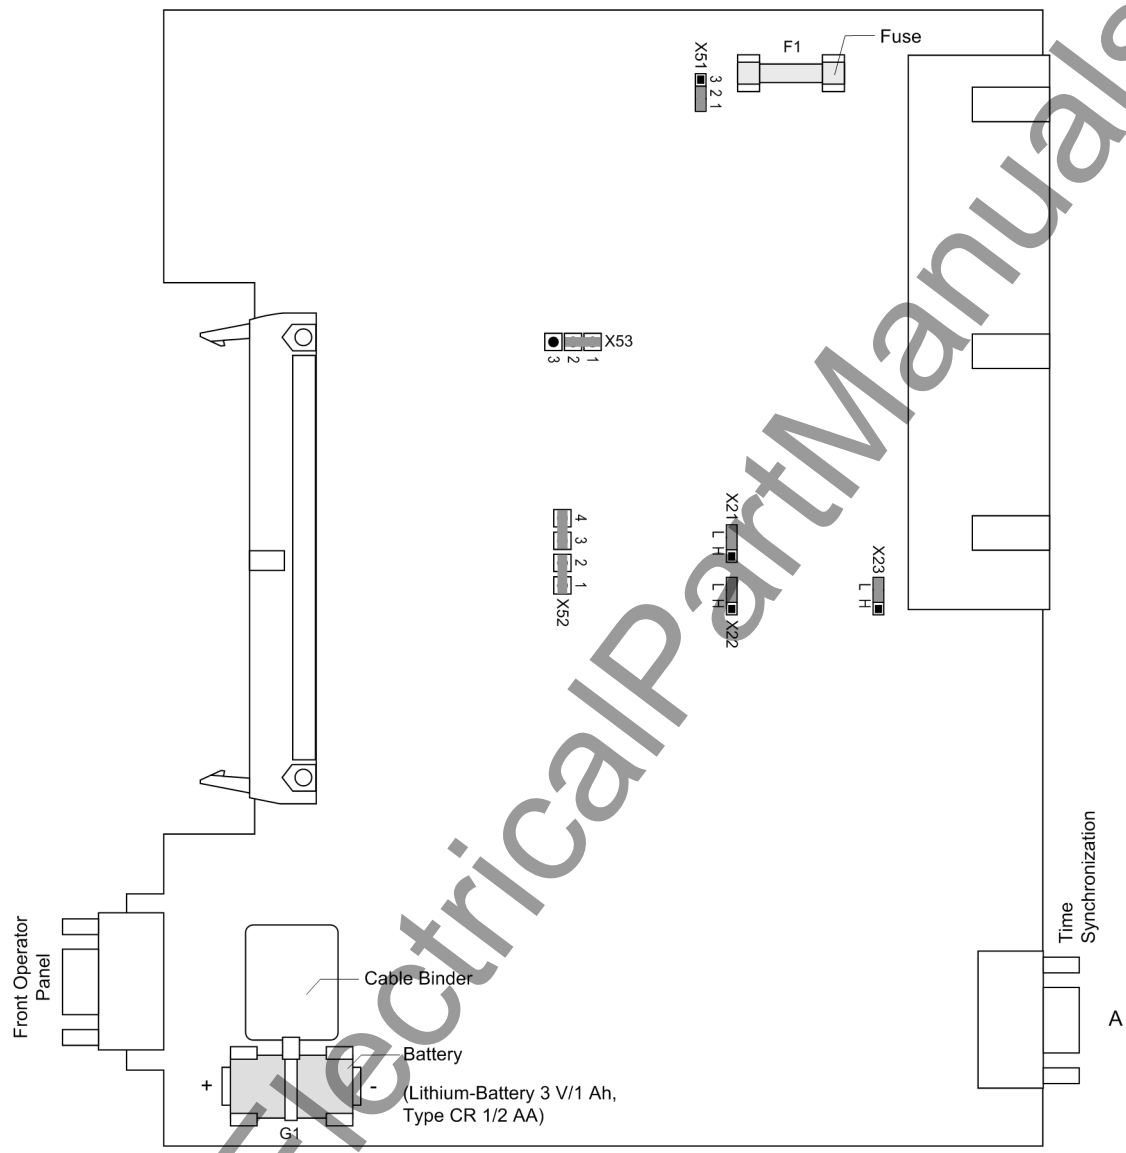

Figure 3-4 Processor printed circuit board A-CPU for devices up to release .../DD with jumpers settings required for the board configuration
- Check the jumpers according to Figures 3-4 to and the following information, and as the case may be change or remove them.